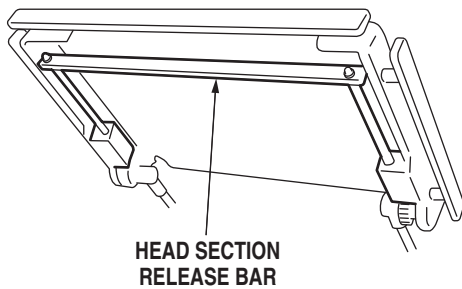

Figure 2-22. Head Section Adjustment
a. A quick release positioning bar located under and to the front of the head section (figure 2-22) is used to raise or lower the head section. Pull the release bar toward the head end to allow the section to pivot up or down. Positioning from 60° above horizontal to 90° below horizontal in 15° increments is available. Release the bar to lock the head section in position.